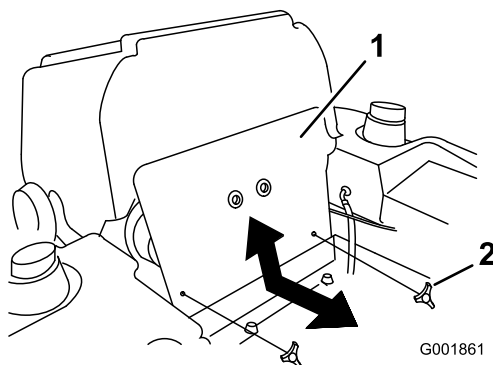

Figure 1
7. Tilt the seat forward and remove the front engine panel (Figure 1).